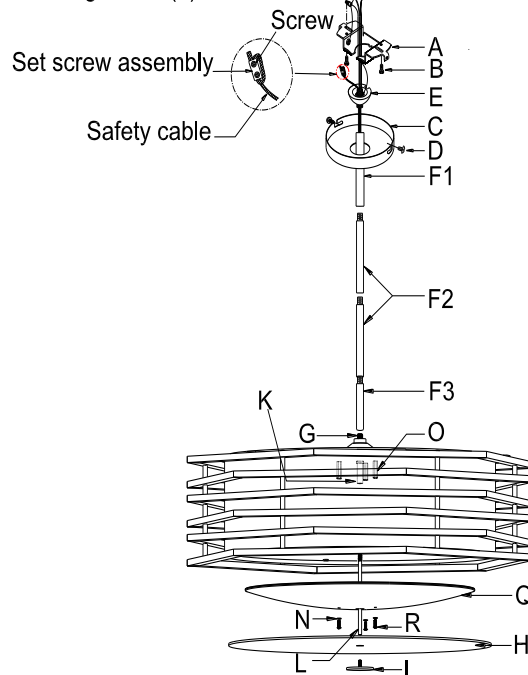

Fig.3
#### CONNECTING THE WIRES (Fig. 3)
- 7 At this point, connect the electrical wire as shown in figure 3, making sure that all wire connectors are secured. If your outlet has a ground wire (green or bare copper), connect the ground wire from the hanger ball and mounting plate to it. Otherwise, connect the ground wire from hanger ball directly to the mounting plate ground wire and secure with wire connectors provided. After the wires are connected, tuck them carefully into the ceiling junction box.